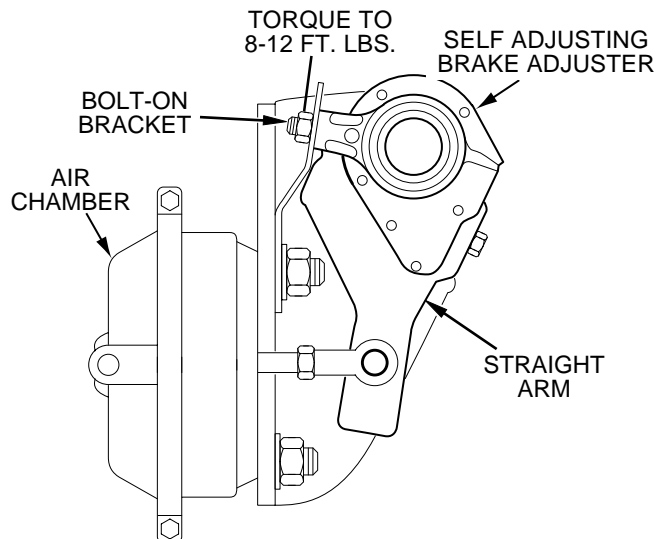

Figure 9 Disc Brake Type Installation
- Disc brake application (See Figure 9.)